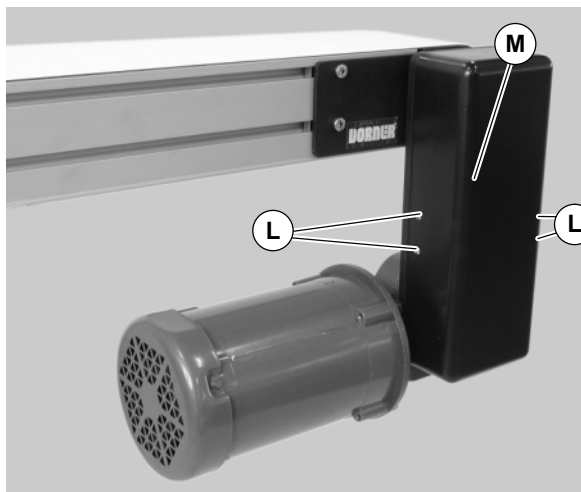

Figure 18
- a. Remove four (4) screws (L of Figure 18) and cover (M).